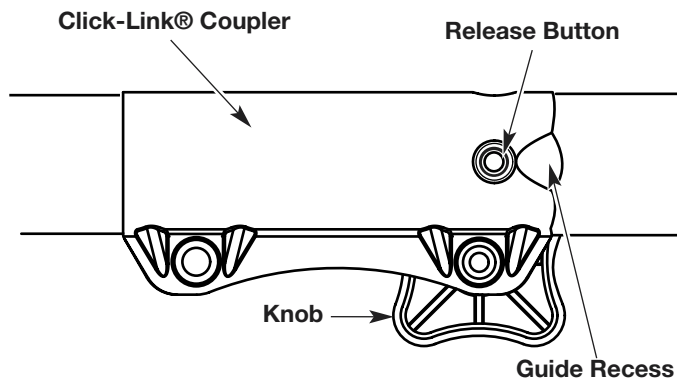

Fig. 8
1. Turn the knob counterclockwise to loosen (Fig. 8).
2. Press and hold the release button (Fig. 8).
1. Turn knob counterclockwise to loosen (Fig. 8).
NOTE: Aligning the release button with the guide recess will help installation (Fig. 8).